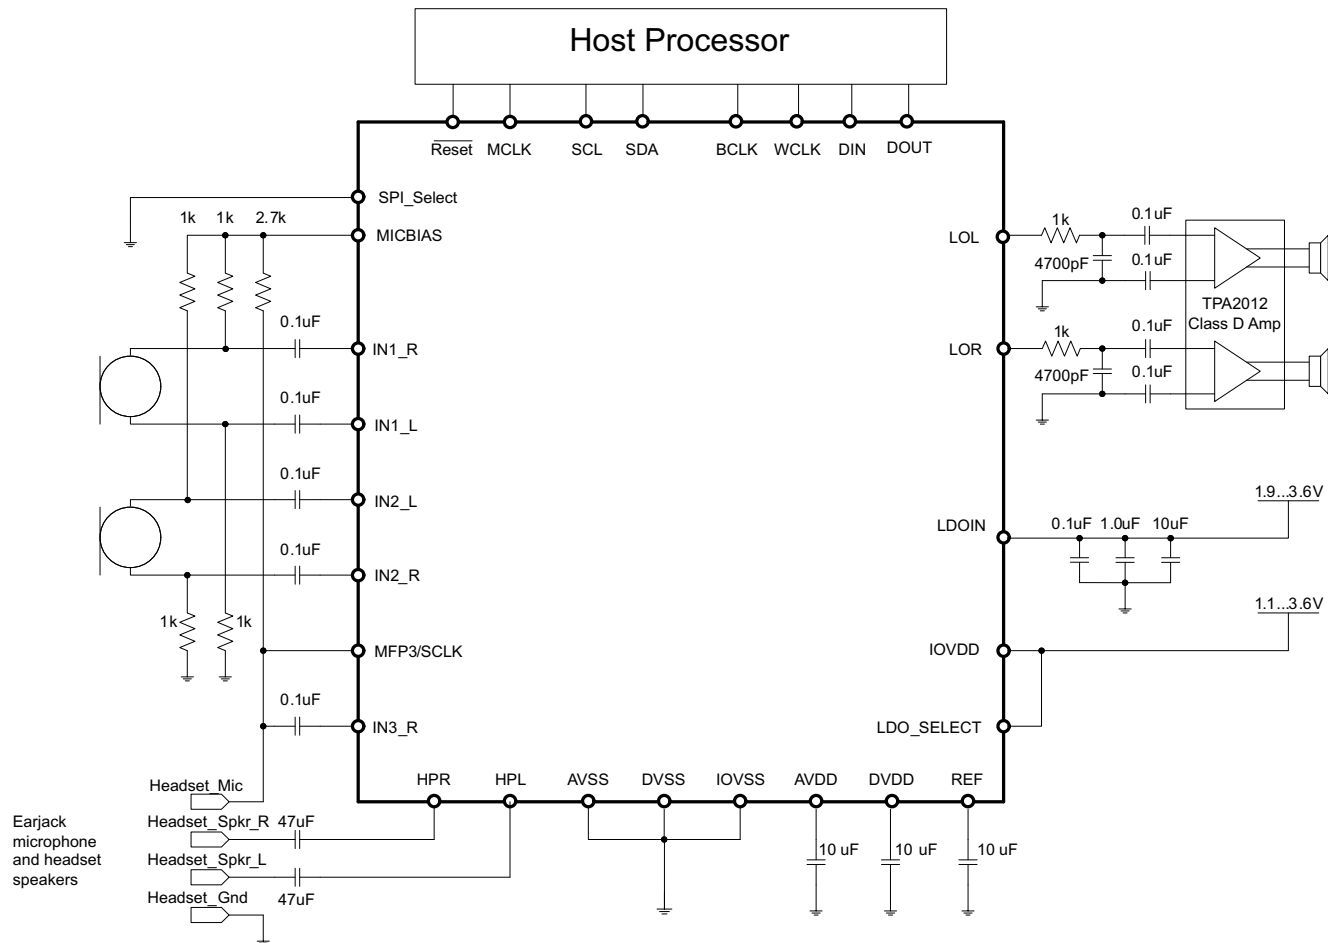

图 21. Typical Circuit Configuration
图 21 shows a typical circuit configuration for a system using the TLV320AIC3204.
Refer to Figure 21 for recommendations on decoupling capacitors.
- The decoupling capacitors for the power supplies should be placed close to the device terminals. Figure 21 shows the recommended decoupling capacitors for the TLV320AIC3204.